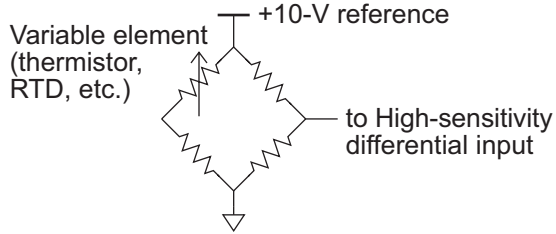

Figure 3-9. Nulled Bridge Circuit for Measuring High-Sensitivity Differential Analog Input
The gain at the plus and minus inputs is 10 when jumper H7 is installed. The gain of the plus input becomes higher (11) when H7 is removed. This has the effect of skewing the output from a nulled bridge circuit to the middle of the measurement range. Such a bridge circuit is shown in Figure 3-9 below. When the bridge is nulled, both inputs are equal to 5 volts. The output voltage of the input amplifier with H7 removed is $5 \times (11 - 10) = 5$ volts. This is in the middle of the 10-volt measurement range of